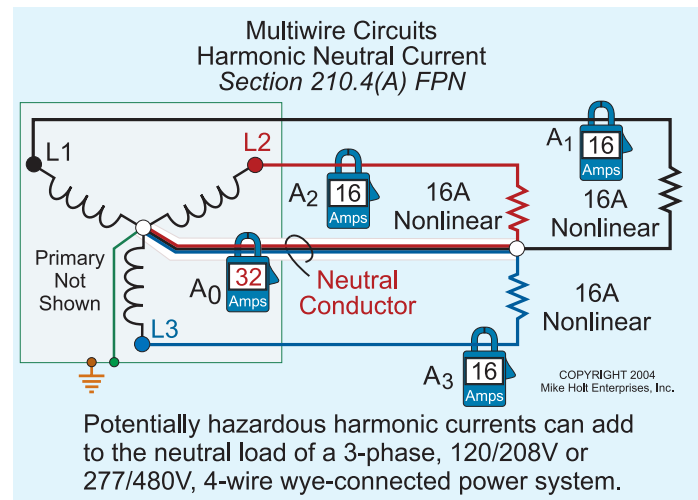

Figure 210-3
FPN: Unwanted and potentially hazardous harmonic currents can cause additional heating of the neutral conductor of a 4-wire three-phase 120/208V or 277/480V wye-connected system, which supplies nonlinear loads. To prevent fire or equipment damage from excessive harmonic neutral current, the designer should consider: (1) increasing the size of the neutral conductor, or (2) installing a separate neutral for each phase. Also see 220.61(C)(2) FPN 2, and 310.15(B)(4)(c). **Figure 210-3**